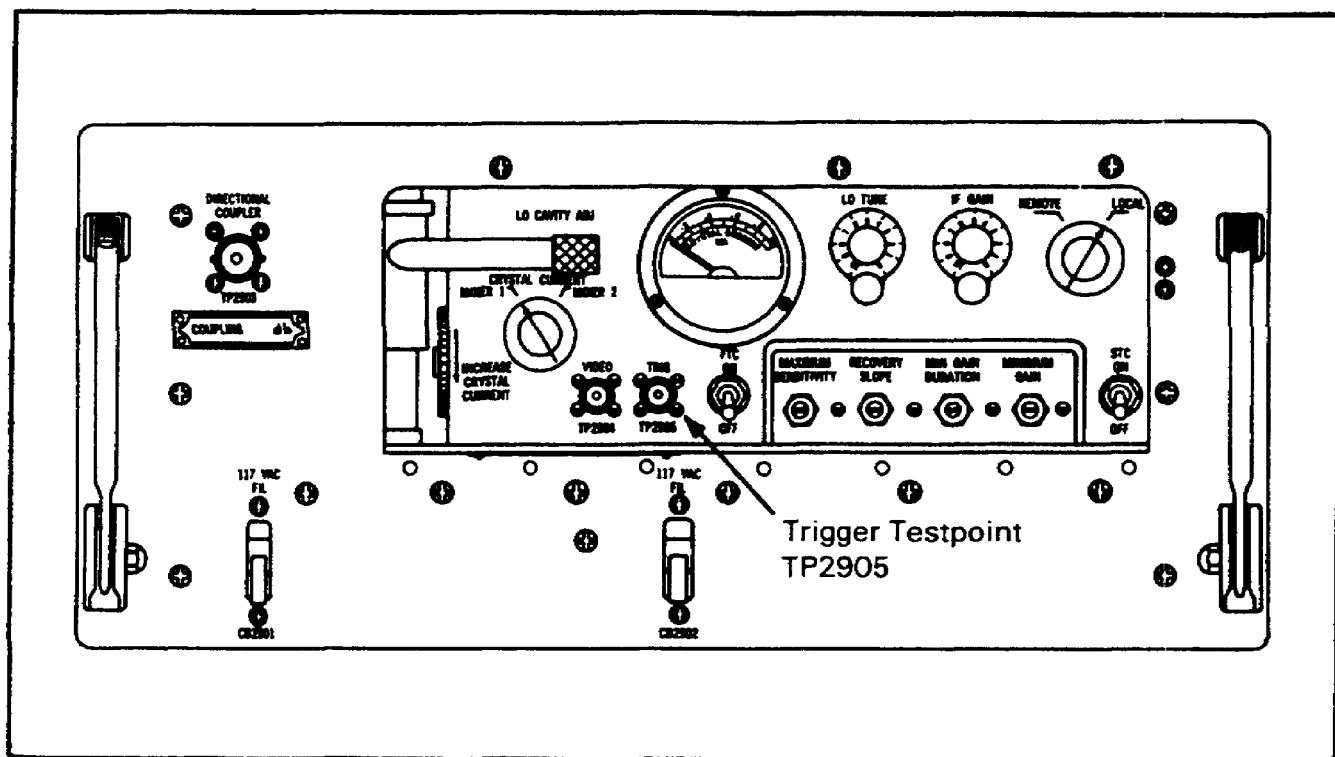

Figure 46. Receiver, radar R-981/FPN-4.
(See Figure 46.)
- Trigger test point TP-2905 on receive chassis (Figure 46)